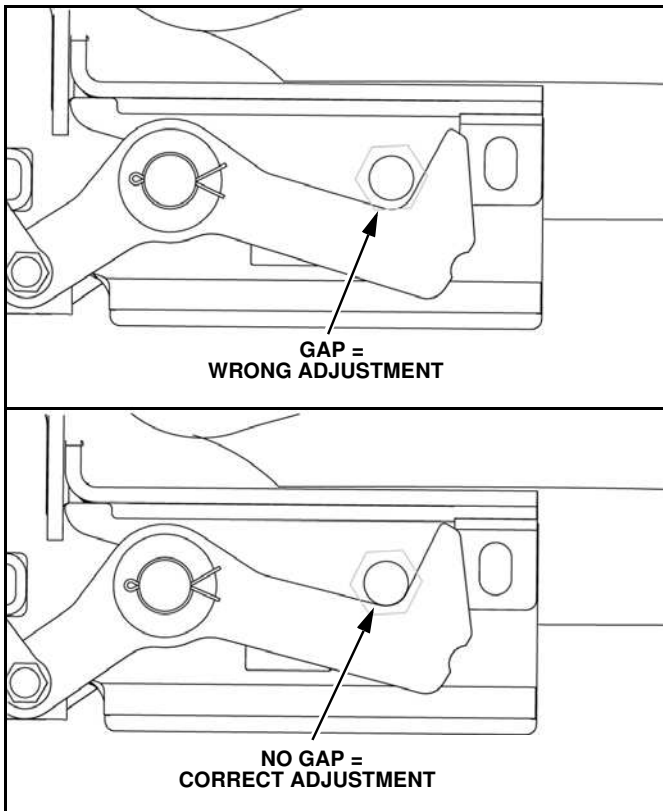

Figure 1-55
6. Periodically the turnbuckle will need to be adjusted due to wear and tear of the VRM. (See Figure 1-55).